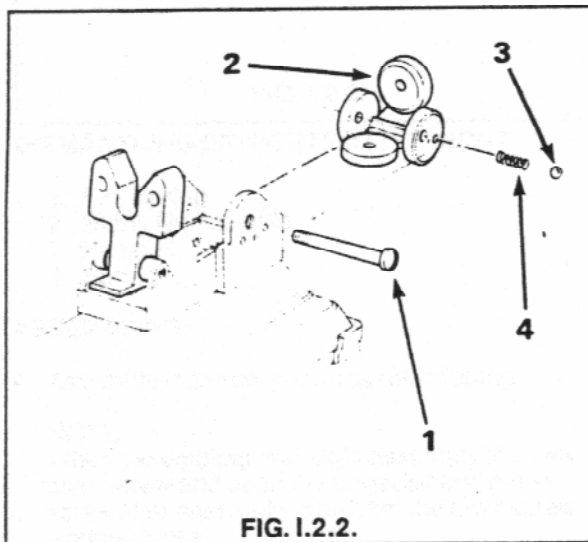

FIG. I.2.2.
2. Using a suitable file, remove the peened metal from the end of pivot screw supporting rear sight and unscrew pivot screw. Place a finger over pivot screw hole and slightly lift rear sight to allow ball bearing to exit through pivot screw hole. Release finger gently as the ball bearing will be under pressure from the spring behind it, and remove ball bearing. Remove rear sight from cover and then remove spring from sight. See Fig. I.2.2.